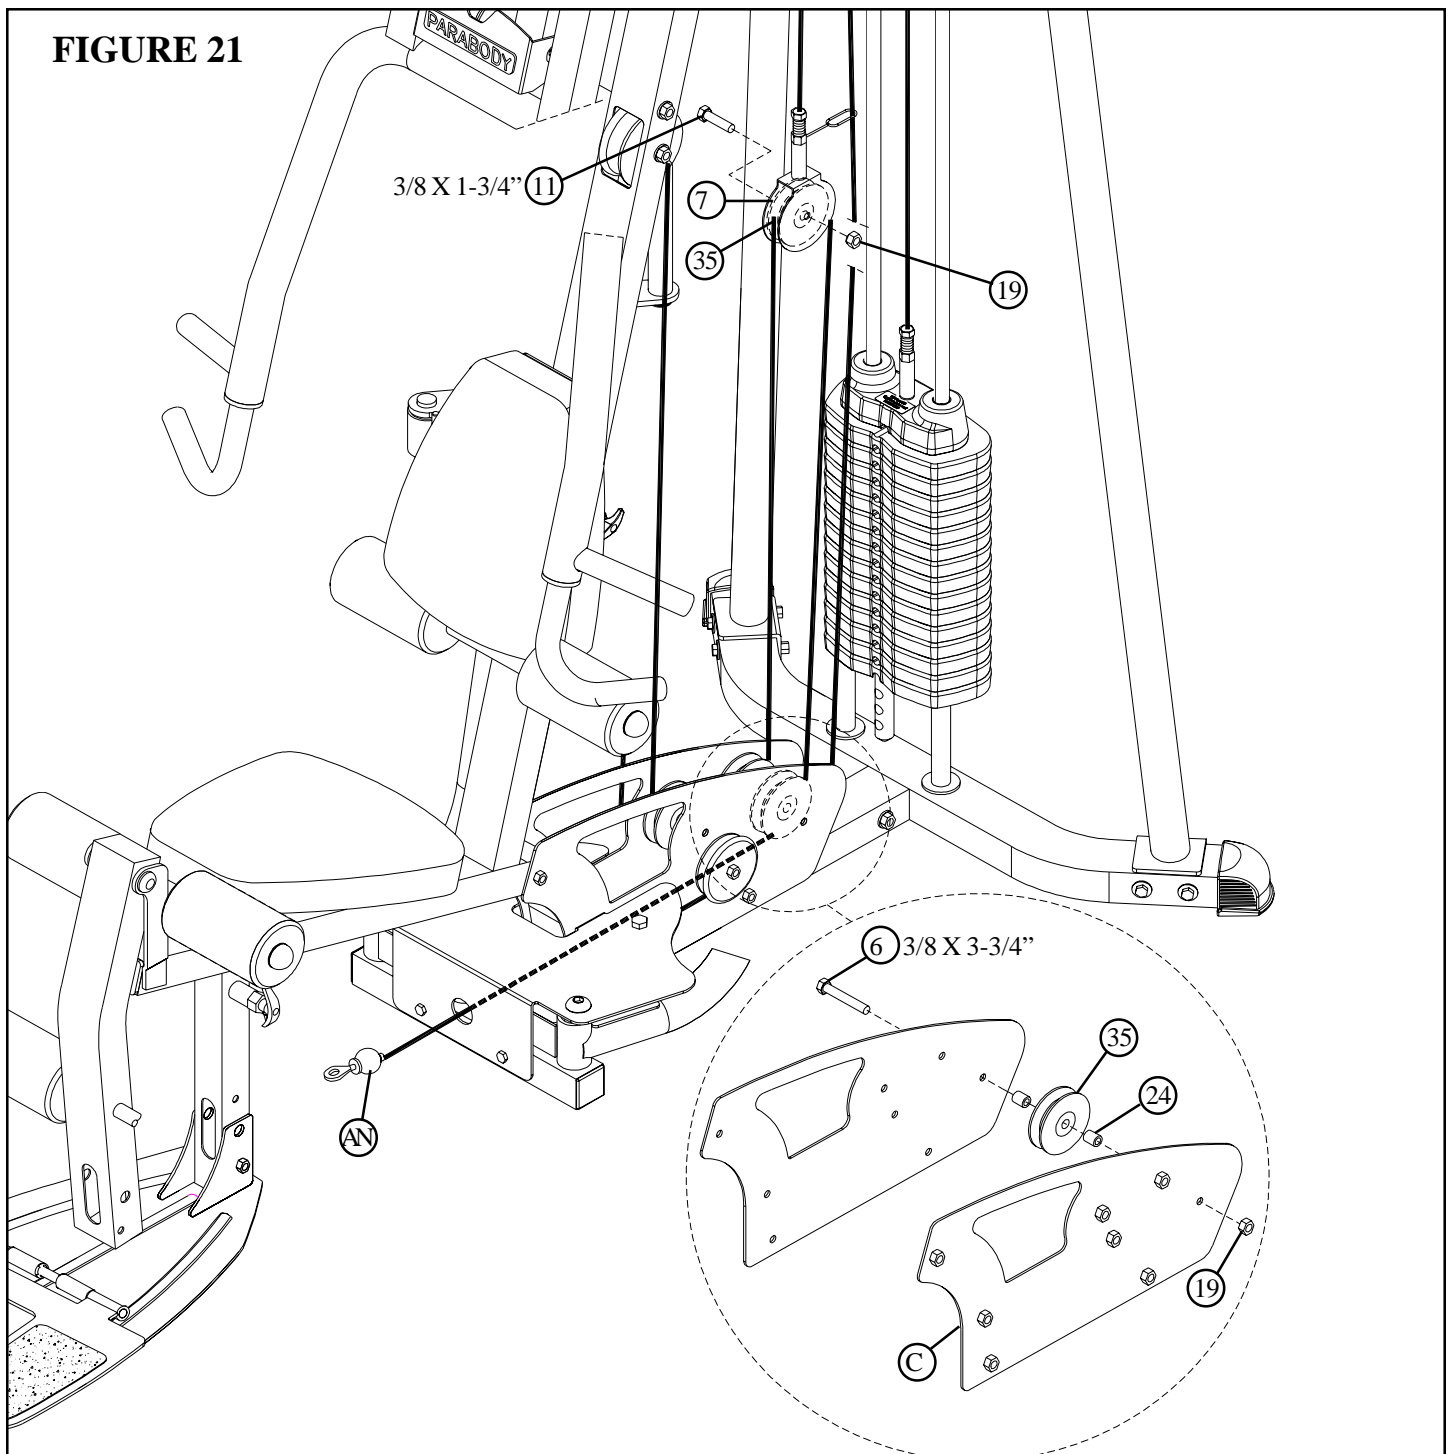

**FIGURE 20**
- Route the large ball end of the LOW CABLE (AN) around one V- PULLEY (37) and assemble the PULLEY to the FRAME (A) using two 3/8 X 3-3/4" BOLTS (6), two 19/32" FLANGE SPACERS (28), two 3/8" WASHERS (18) and two 3/8" LOCK NUTS (19) as shown in FIGURE 20.
- Route the small ball end of the LOW CABLE (AN) through the BASE PLATES (C) and assemble two 3-1/2" PULLEYS (35) to the BASE PLATES (C) using two 3/8 X 3-3/4" BOLTS (6), four 1" SPACERS (24) and two 3/8" LOCK NUTS (19). See FIGURE 20.